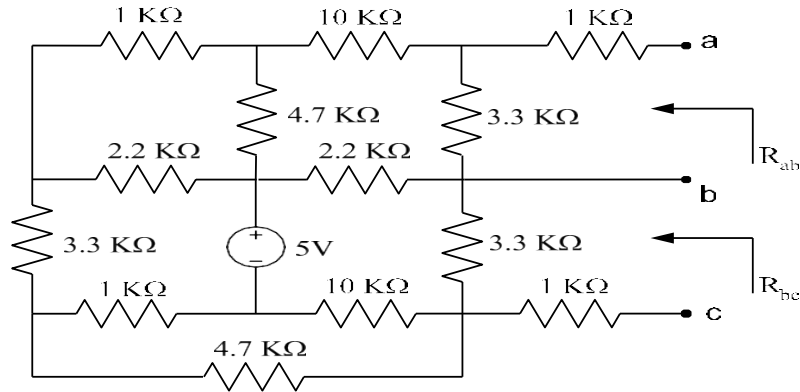
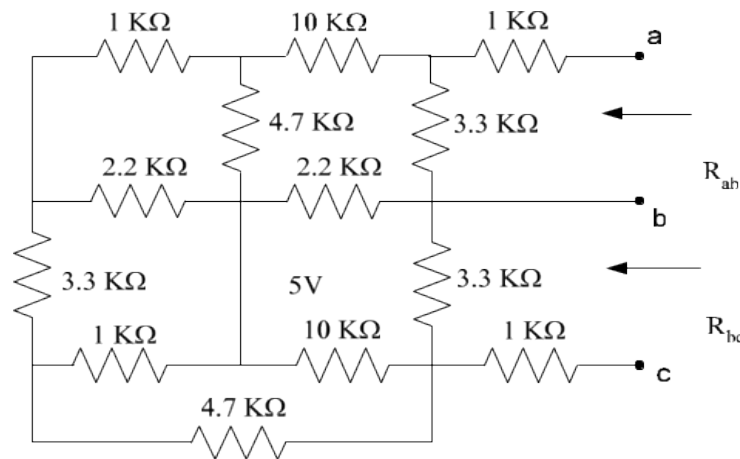

Figure 3.1: Resistance measurement
Figure 3.2: Resistance measurement using ohmmeter method
In a series circuit (Figure 3.1) the current is same through all of the circuit elements. The equivalent Resistance, $R_T = R_1 + R_2 + R_3$.
KVL states that the voltage rises must be equal to the voltage drops around a close circuit. Applying Kirchoff's Voltage Law around closed loop of Figure 3.1, we find,
Connect the circuit given in Figure 3.1. Then measure the equivalent resistance looking through terminals a-b (R_{ab}) and also the equivalent resistance looking through terminals b-c (R_{bc}). For this purpose, different methods will be used as described below:
- Next we have to replace all the independent sources by their internal resistance. The resistance of an ideal voltage source is zero and the resistance of an ideal current source is infinite. So, the 5V voltage source in the circuit of Figure 3.1 should be removed completely and replaced by a short circuit (zero ohms). This will result in the circuit of Figure 3.2.
- This method is an indirect approach of the above method. For this purpose, deactivate the 5V supply of Figure 3.1 as before and replace it with a short circuit.
1. This method uses Thevenin's theorem. Here the source need not be removed or deactivated as in previous two methods. This method is very useful in cases where the resistance is needed to be measured without deactivating the sources as in circuits containing dependent sources or electronic devices. Reconnect the circuit of Figure 3.1.
1. This method also uses the principle of Thevenin's theorem and can be applied without removing any source from the original circuit. For this purpose, first measure the open-circuit voltage V_{oc} across terminals a and b of Figure 3.1.